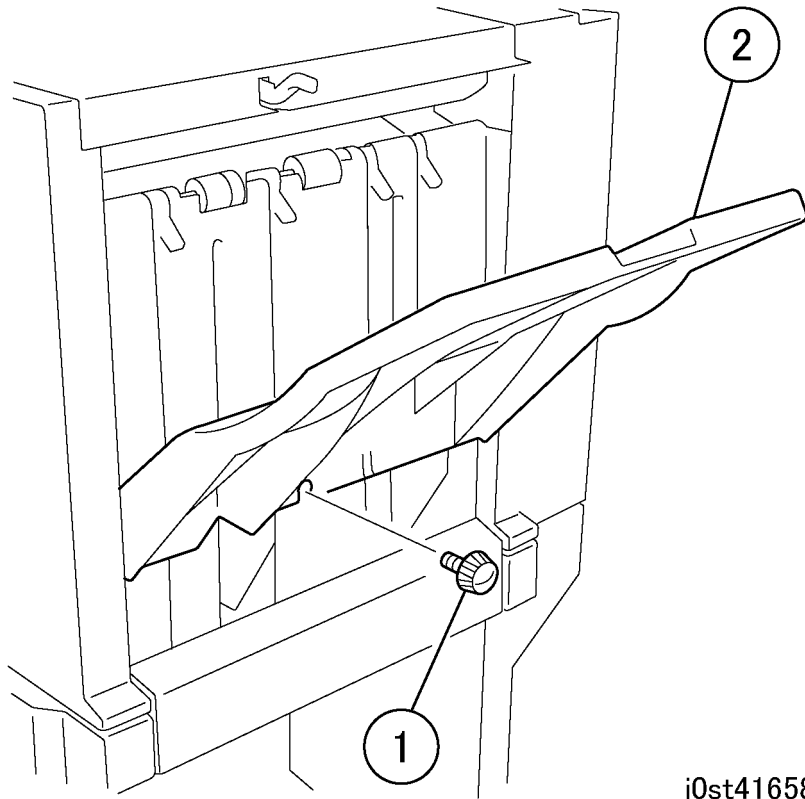

Figure 1 Removing the Stacker Tray
5. Remove the Stacker Tray. (Figure 1)